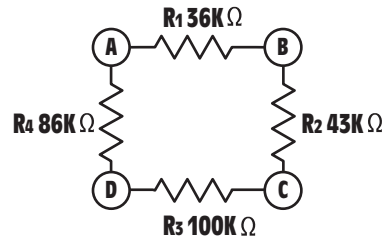

Figure 7-24 Practice Problem 4.
4. Refer to the circuit shown in *Figure 7-24*. Determine the amount of resistance that would be measured across the points indicated.